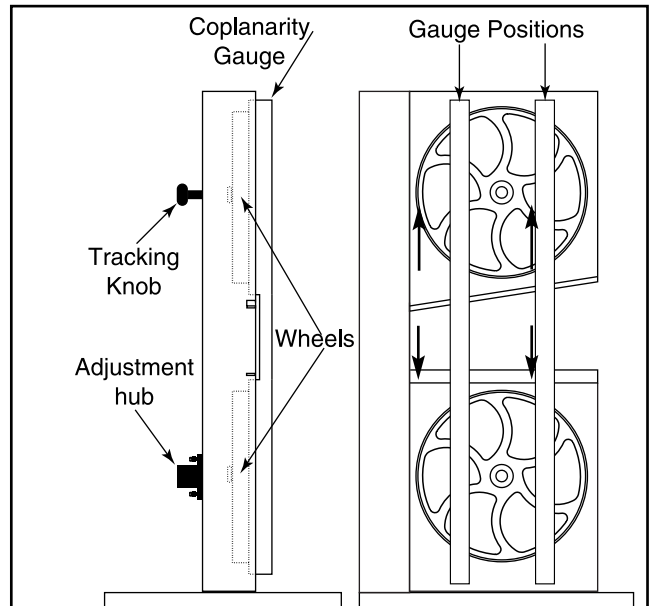

Figure 15. Coplanarity gauge placement.
5. Place your gauge up against both wheels in the positions shown in Figure 15.